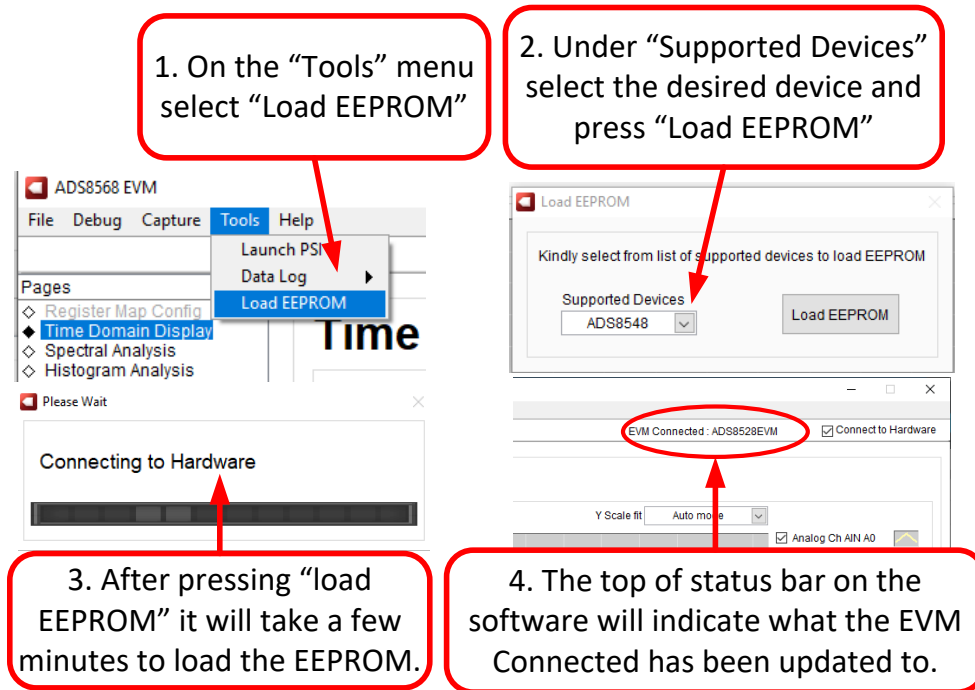

Figure 7-2. Configure EEPROM and Software for New Device
4. Use the "Tools" menu to "Load EEPROM" according to the device that is currently installed. When this procedure is successfully completed, you will see the status bar at the top of the software update according to the device installed on the hardware. For details, see Figure 7-2.